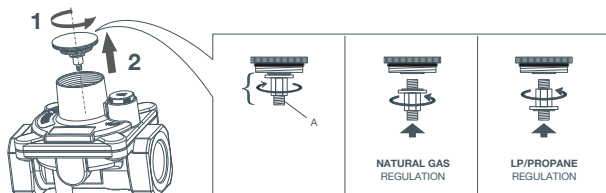

Fig. 14 Resetting the gas pressure regulator
- Unscrew component "A", reverse it and screw it back in according to the gas type you are converting to (see Fig. 14 below).